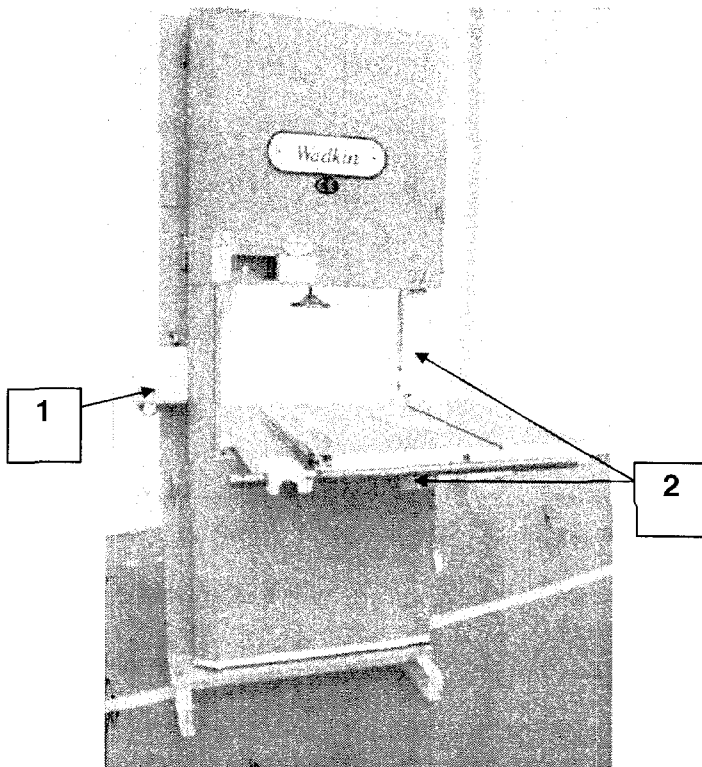

Figure 4.2.1
Machine Start/Stop (Figure 4.2.1)
4.2.3 Guarding (Figure 4.2.1)